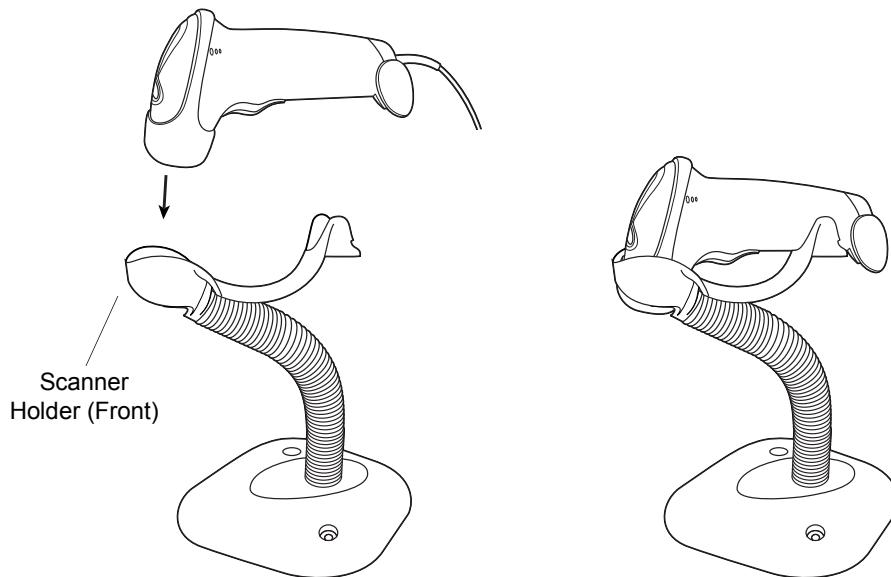

Figure 2-7 Inserting and Using the Scanner in the Stand
2. Insert the scanner in the optional Intellistand by placing the front of the scanner into the stand's "cup" (see Figure 2-7).